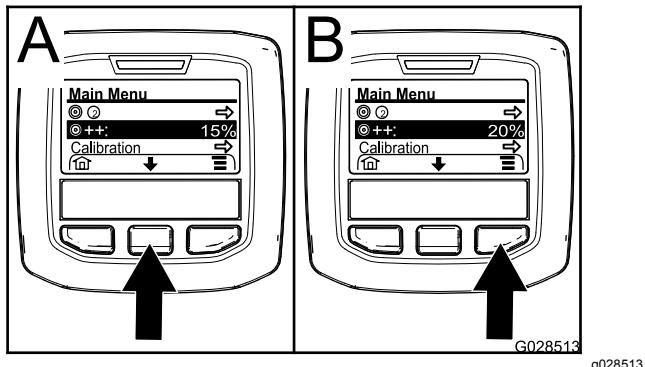

Figure 58
- If needed, press the center selection button to highlight the application rate boost (Figure 58).
Note: The icon for the application rate boost look 2 (+) signs to the right of a bull's-eye target (Figure 58).
- Press the right selection button (Figure 58) to increase the boost percentage in 5% increments (20% maximum).